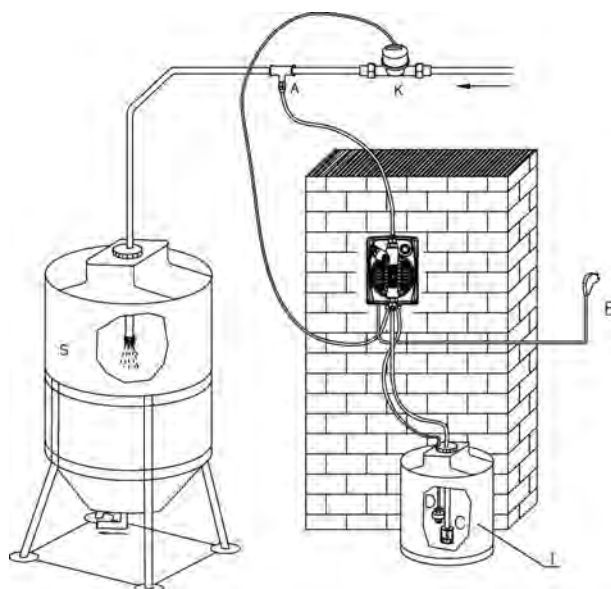

Fig. 12
6.2 - SCHEMA DI IMPIANTO TIPICO (Fig. 12)